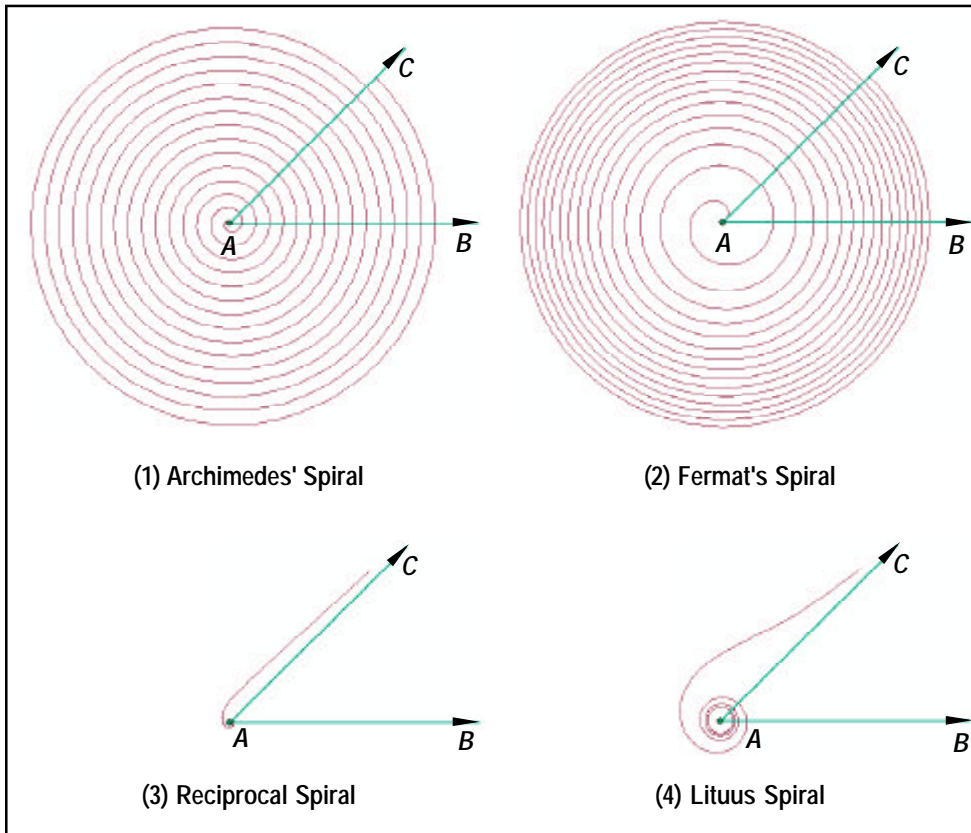

Figure 2 The Spirals of the Special Plane Curves Tool
Samples of these different types of spirals are displayed in Figure 2. The two direction lines contained in the four spirals of this figure will be addressed in the operational steps below.
► **4 Enter** in the *Spiral Radius - ft(m)*: data field in world units the radius of the spiral. This is the distance from the center of the spiral to the end of the spiral, the length of the line AC in Figure 2.
► **5 Enter** in the *Starting Angle (Cartesian Decimal Degrees)*: data field the Cartesian direction of the line AC. In Figure 2, this is the angle BAC for the Archimedes and Fermat spirals. For the Reciprocal and Lituus spirals, the angle of inclination is defined as the direction from the center of the spiral to the start point of the innermost ring. For these last said two spirals, the direction from the center of the spiral to the end point of the outermost ring will be equal to the starting angle plus the increment angle. For example, if the increment angle is 30 degrees and the starting angle is 10 degrees, the direction from the center of the spiral to the end point of the outermost ring will be 40 degrees.